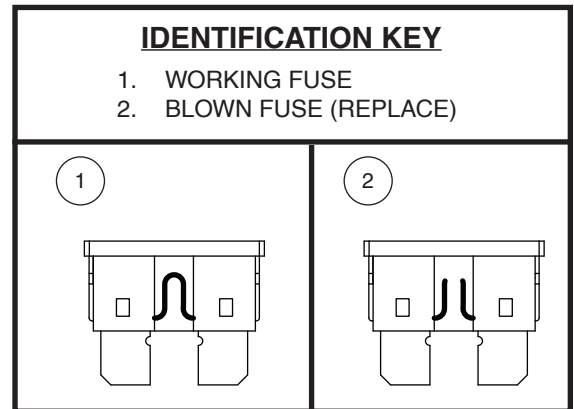

Figure 21. Fuse Replacement
2. Examine the fuse to be sure it is blown. See figure 21.